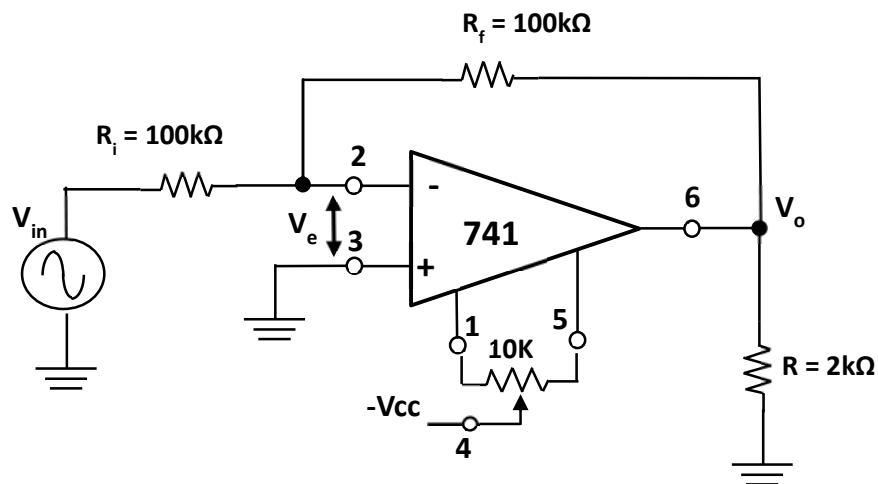

Figure 4: Op Amp Circuit with Feedback
- a) With the offset of the op amp adjusted to zero, apply a 20Hz sinusoidal source voltage V_{in} of $2V_p$ to the input of the amplifier shown in Figure 4. Measure V_o and V_e .